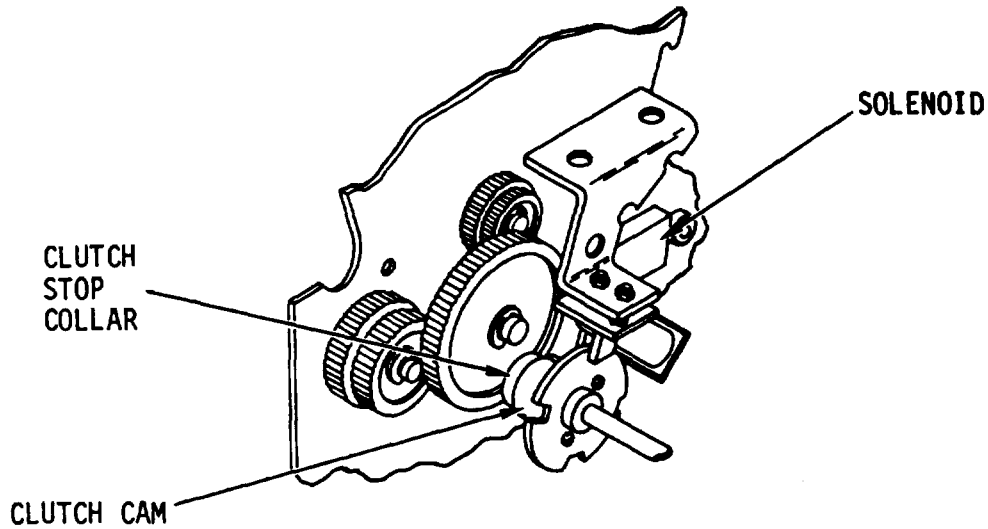

Figure 2-8. Normal Linefeed Components
(1) The paper is advanced by rotating the platen knob manually or by electrical/ mechanical feed. The linefeed solenoid and linefeed clutch are the components (fig. 2-8) used for normal line feed.